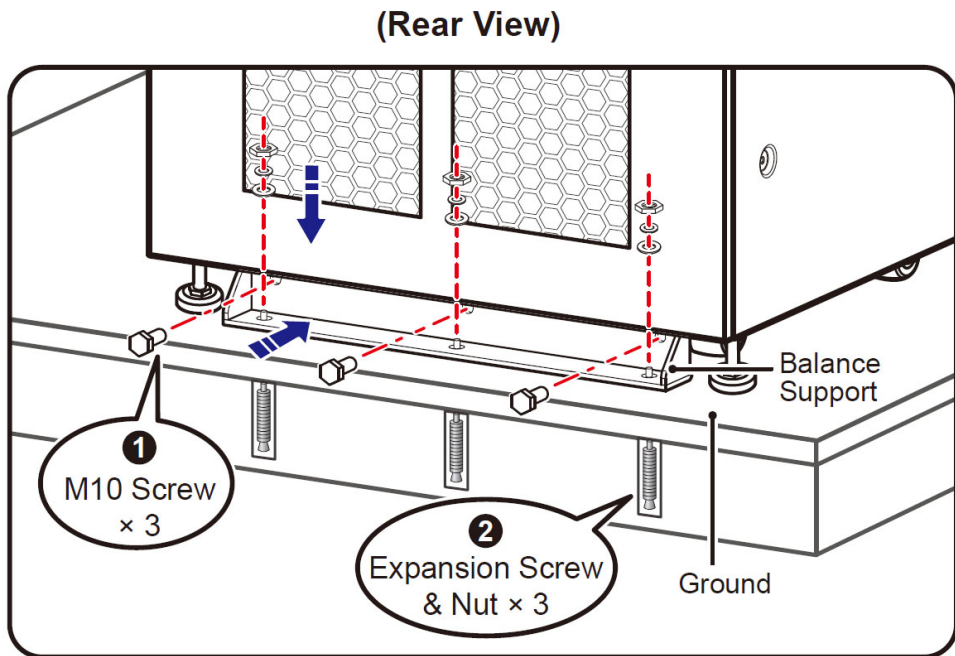

Figure 8: balance support installation _ rear of the battery cabinet
- (4) Use an 11/16" (17 mm) socket wrench and three M10 screws (originally used to fix the rear balance support on the pallet) to install the rear balance support (removed during the unpacking process) at the rear of the Battery Cabinet. Use the three expansion screws and nuts (provided by service personnel) to fix the rear balance support on the ground to avoid Battery Cabinet movement. Please see **Figure 8**.